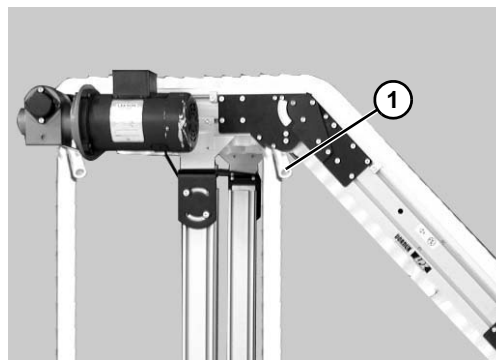

Figure 47
2. Place temporary support (Figure 47, item 1) under conveyor sections.